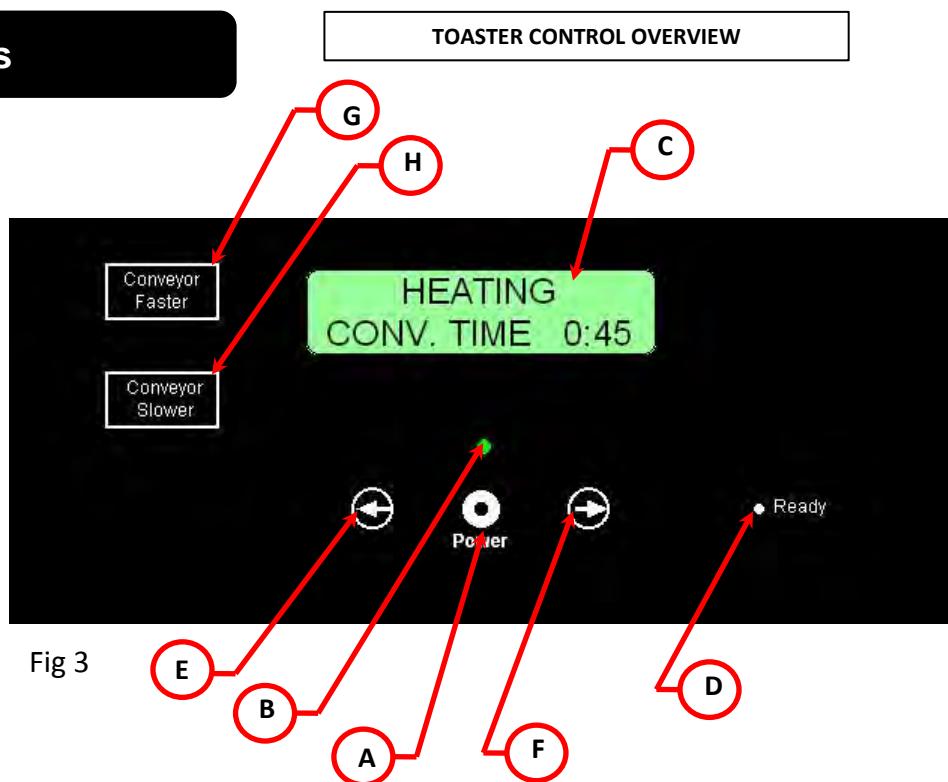

Fig 3
- 2) Fuse in the units control panel is blown. (see fig 3).
- 1) Circuit breaker tripped in electrical panel. (see fig 3).
- 1) Circuit breaker tripped in unit control panel (see fig 3).
- 1) Reset the 1/2 amp circuit breaker. (see fig 3). If breaker trips again call qualified service personnel.